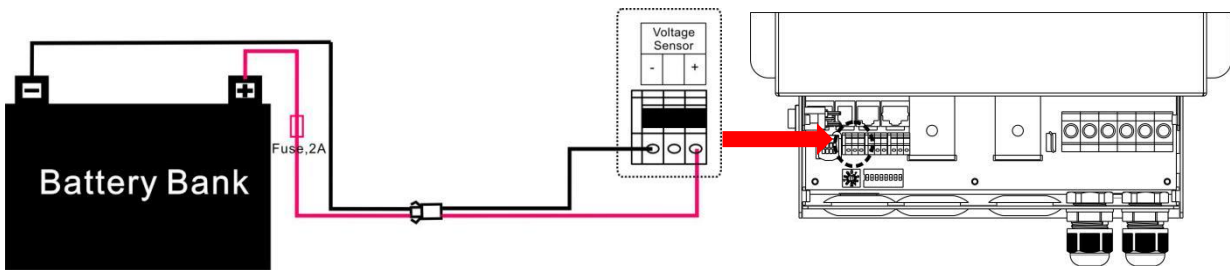

Figure 23 Interface of Voltage Sensor in Energlie Pro
- Pull the VS cables (positive and minus) through hole in the front cover of Energier Pro and connect it to the interface of Energier Pro which marked “Voltage Sensor”. Please refer to following Figure 23.
- Please connect the minus (-) and positive (+) cables of Voltage Sensor to the terminals of battery respectively (Figure 23).